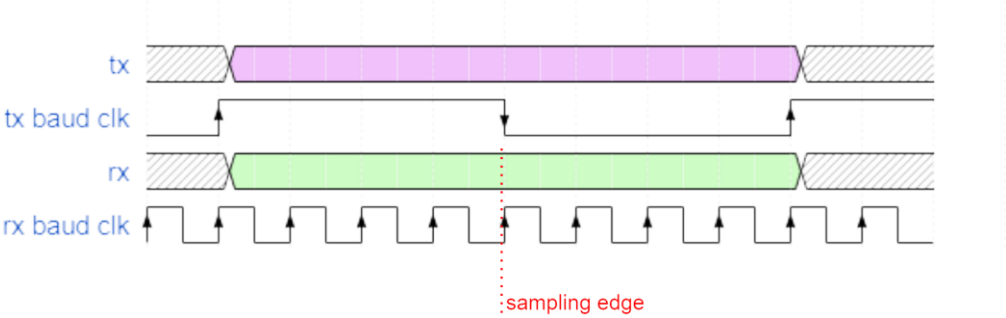

Figure 3.3: UART RX – Sampling at x8
- **UART Receiver:** Converts serial data received via RX to parallel data. Contains two RX buffers. One to shift and store the incoming data and second buffer holds the valid data to be read out. The Receiver samples the data at 8x rate and samples in the middle of the data (see Figure 3.3).